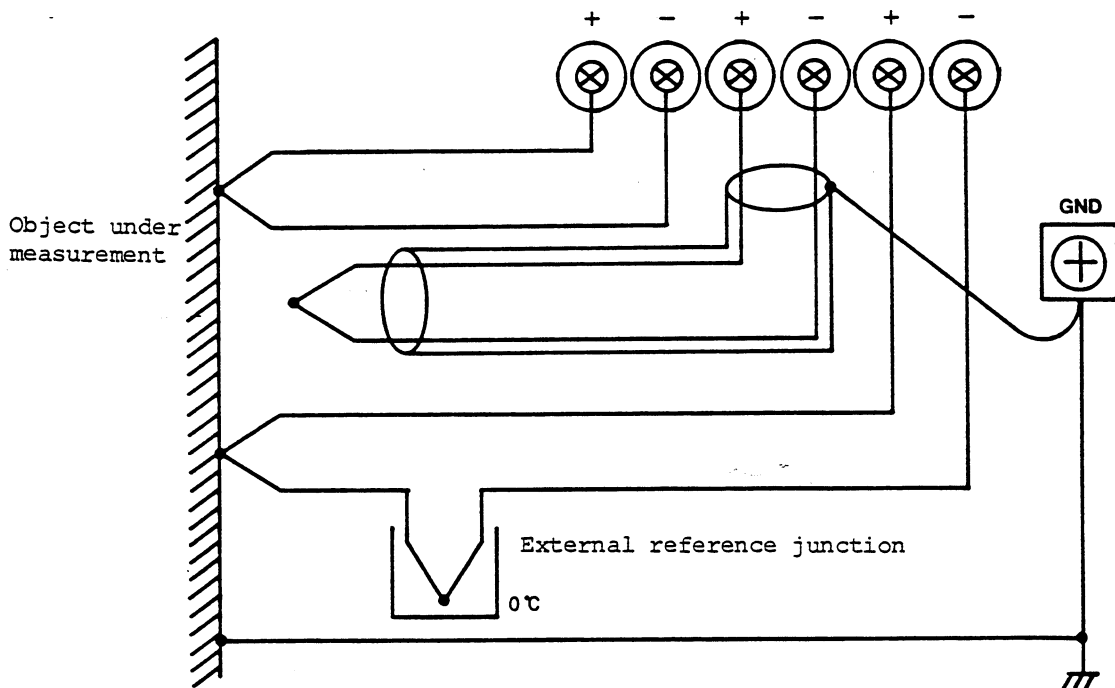

Fig. 2-17 Thermocouple connection example
- o When using an external reference junction compensation, the thermocouple for the reference junction should be non-grounding type (Figure 2-17).